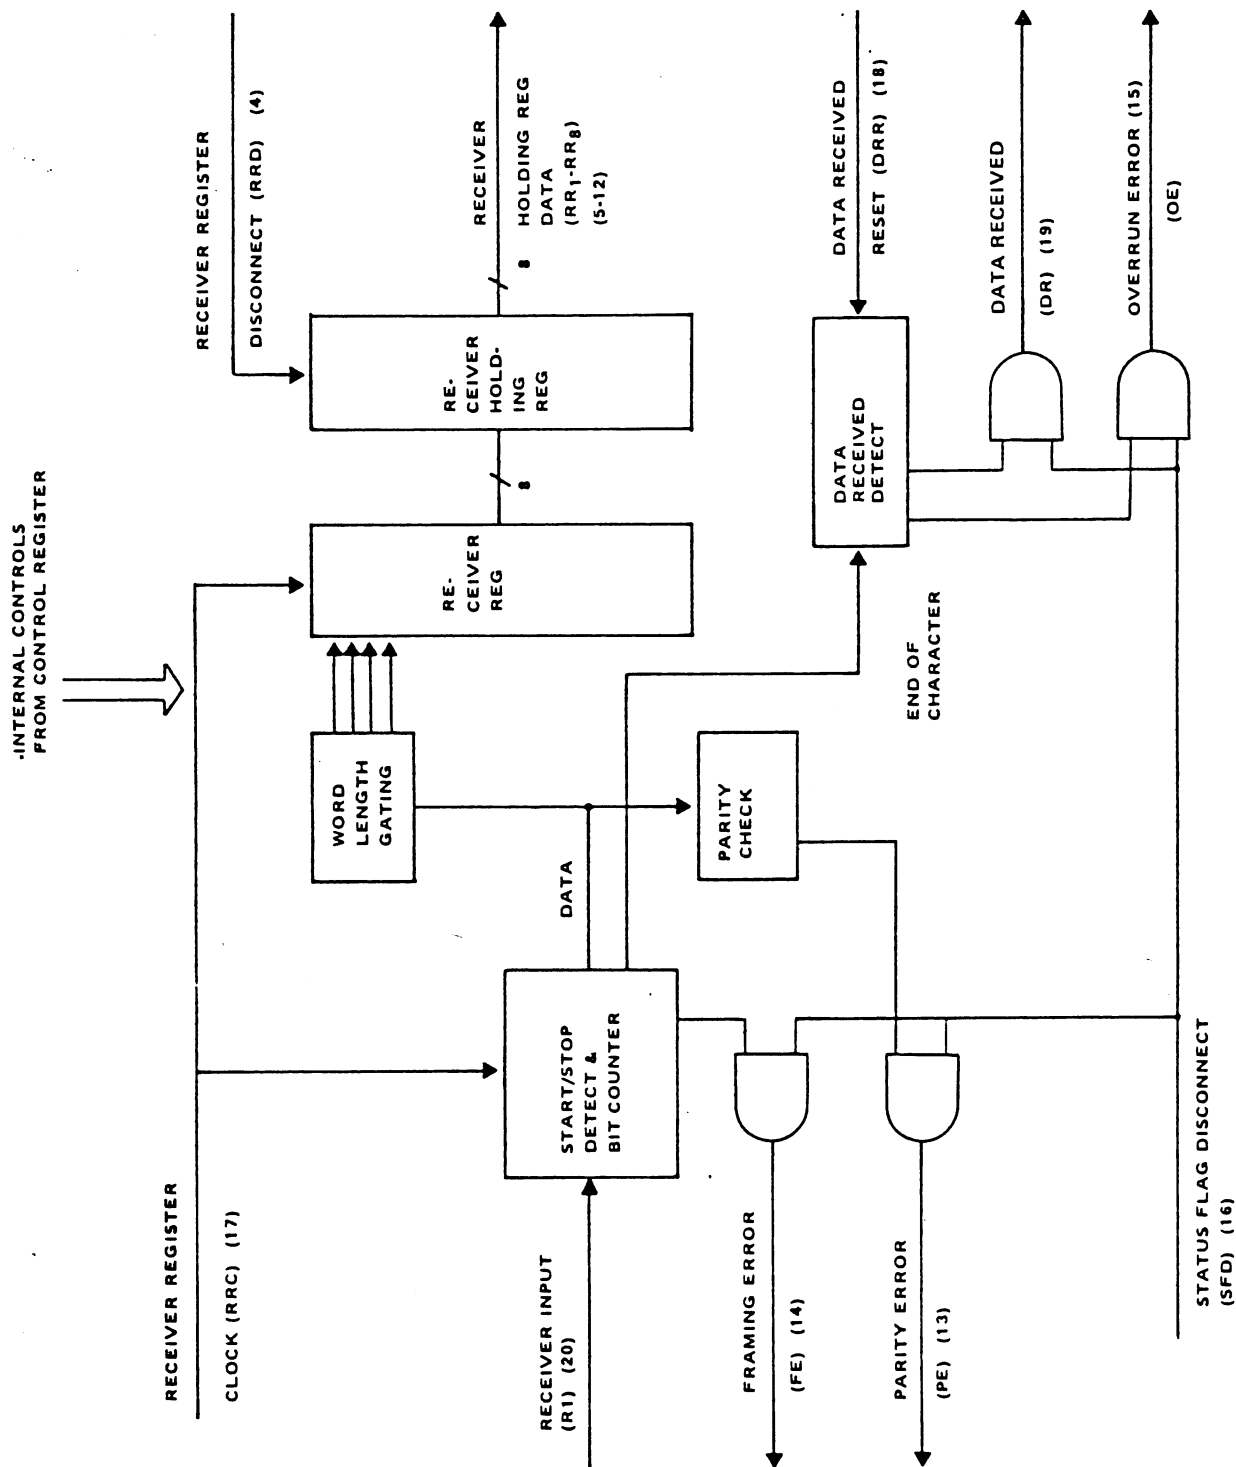

Figure 8. Receiver Block Diagram
Figure 8 is a block diagram of the Receiver portion of the TR1602. Serial asynchronous data is provided to the Receiver Input (RI). A start bit detect circuit continually searches for a logic one to logic zero transition while in the idle state. When this transition is located, a counter is reset and allowed to count until the center of the start bit is located. If the input is still a logic zero at the center, the signal is assumed to be a valid start bit and the counter continues to count to find the center of all subsequent